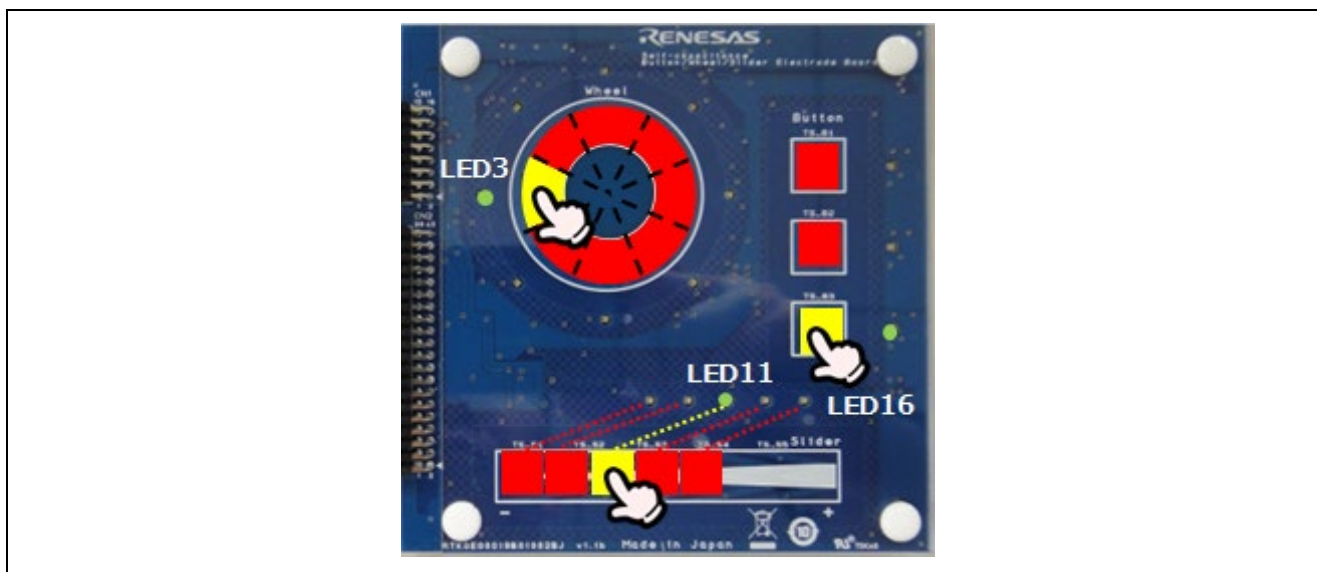

Figure 5.11 Operating of touch electrode and LED
*For details on which LED corresponds to each electrode, see Figure 5.11.